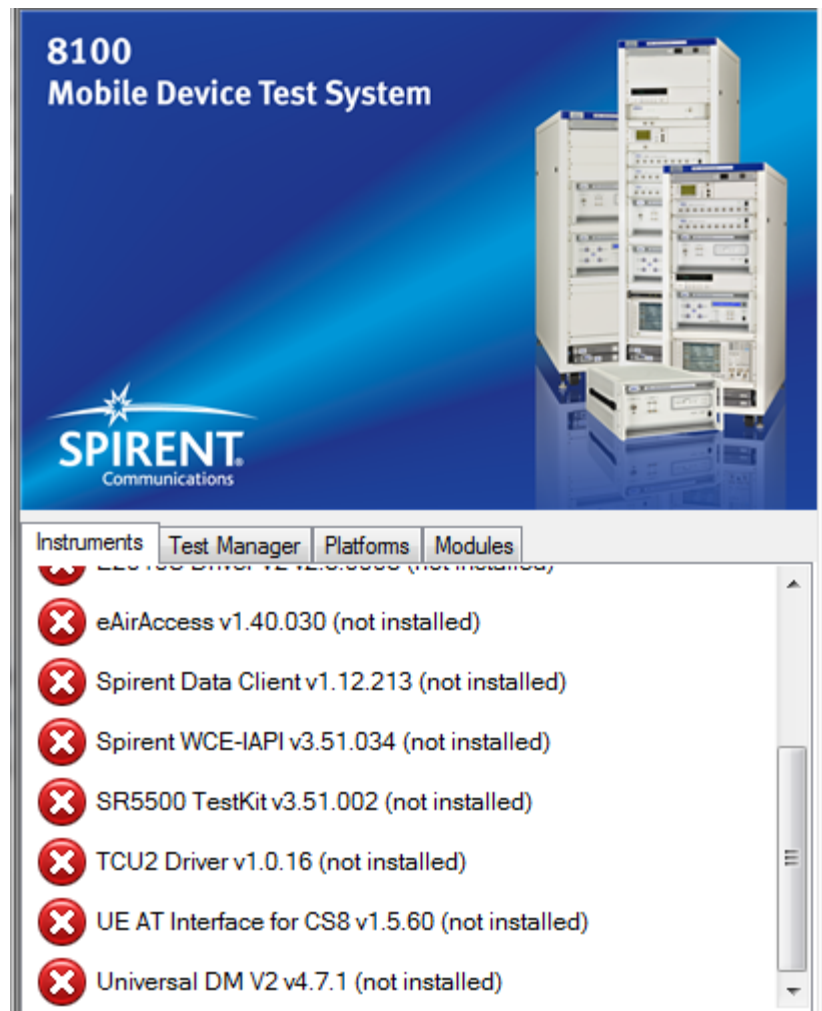

Figure 1-1: Global Installer – Instruments Tab
- A new component from the Global Installer DVD (UE AT Interface for CS8) must be installed when upgrading the UMTS - LTE Mobility module to this release. You can select this component for installation under the *Instruments* tab, as shown in Figure 1-1.